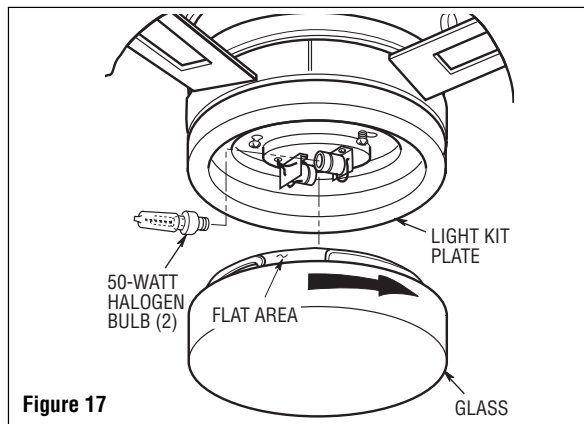

Figure 17
7. Screw the two 50-watt mini-candelabra base halogen bulbs (supplied) into the light kit plate sockets (Figure 17). Do not touch the glass bulb; use the porcelain base to screw in the bulb, or wear soft gloves.
8. Place the lower glass into the light fitter, aligning the three flat areas on the top flange of the lower glass with the three pins on the inside of the fitter (Figure 17). Then turn the lower glass clockwise until it stops turning.